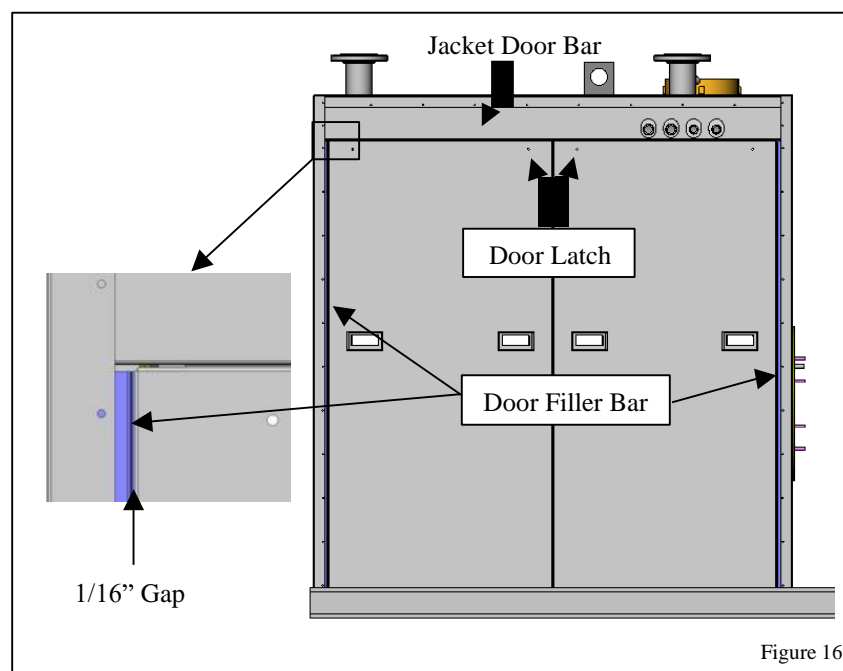

Figure 16
4.7 Install Door Bar by sliding it between the yellow insulation wrap and jacket Top, Front and Rear. Secure Door Bar in place with provided sheet metal screws. See Figure 16.
4.8 Install both Jacket Door Filler bars but do not screw into place. Install all jacket Doors with a 1/16" gap and lock door latches. Square door Filler Bars by means of the door side in addition to about a 1/16" gap and screw Filler bars into place. Unlock door and confirm doors can be removed smoothly and easily. See Figure 16.